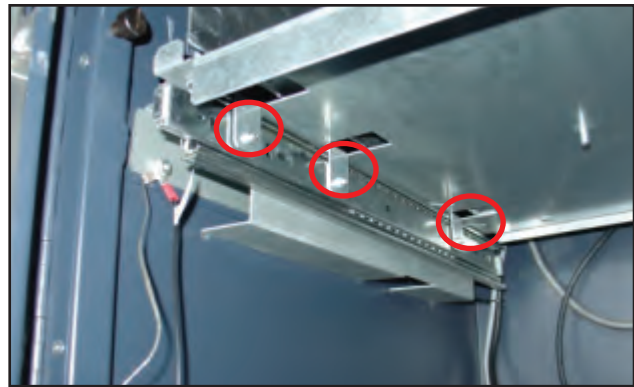

Figure 7
5. Before securing SDD to deck, rest unit on deck and attach power cable, communication cable and data cable to appropriate connections at rear of unit. Make sure all wiring is clear of deck and in rear of cabinet before mounting SDD to deck. Attach deck to slides on both sides using six (6) hex nuts provided, (see figure 7).